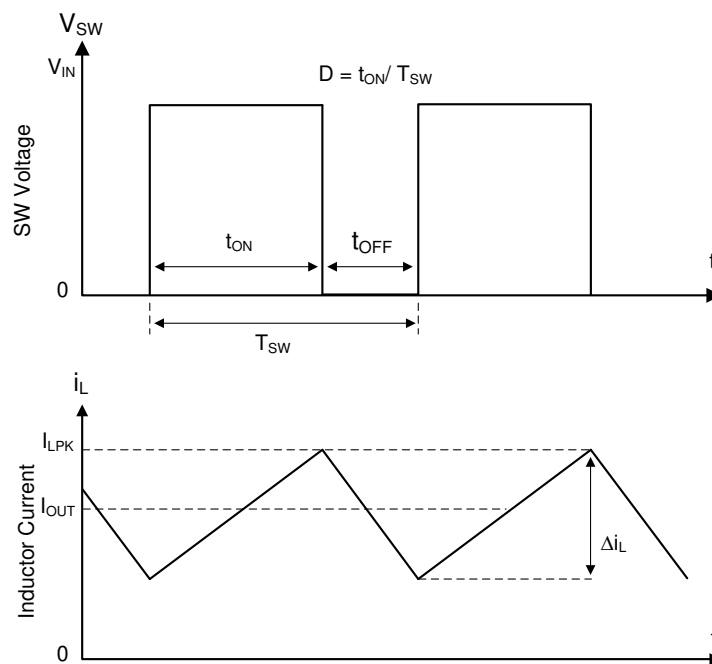

Figure 7-1. SW Node and Inductor Current Waveforms in Continuous Conduction Mode (CCM)
The following operating description of the LMR51603 refers to the Functional Block Diagram and to the waveforms in Figure 7-1. The LMR51603 is a step-down synchronous buck converter with integrated high-side (HS) and low-side (LS) switches (synchronous rectifier). The LMR51603 supplies a regulated output voltage by turning on the high-side and low-side NMOS switches with controlled duty cycle. During high-side switch ON time, the SW pin voltage swings up to approximately  $V_{IN}$ , and the inductor current,  $i_L$ , increases with a linear slope of  $(V_{IN} - V_{OUT}) / L$ . When the high-side switch is turned off by the control logic, the low-side switch is turned on after an anti-shoot-through dead time. Inductor current discharges through the low-side switch with a slope of  $-V_{OUT} / L$ . The control parameter of a buck converter is defined as Duty Cycle  $D = t_{ON} / T_{SW}$ , where  $t_{ON}$  is the high-side switch ON time and  $T_{SW}$  is the switching period. The converter control loop maintains a constant output voltage by adjusting the duty cycle  $D$ . In an ideal buck converter, where losses are ignored,  $D$  is proportional to the output voltage and inversely proportional to the input voltage:  $D = V_{OUT} / V_{IN}$ .